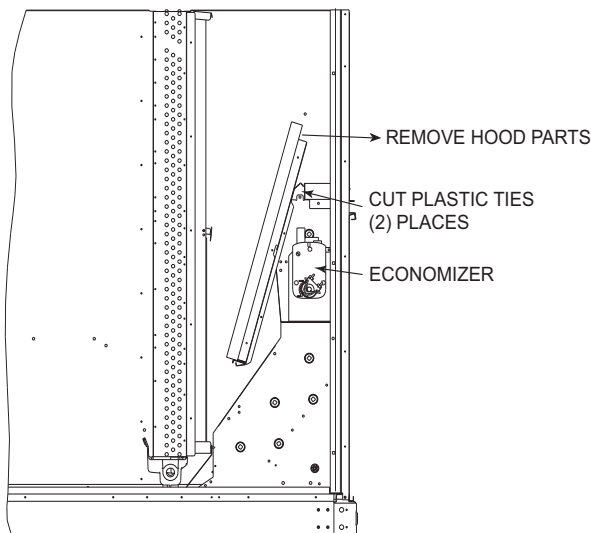

Fig. 27 — Economizer Hood Package Location (Size 16)
3. Locate and cut the (2) plastic tie-wraps, being careful to not damage any wiring. (See Fig. 27.)